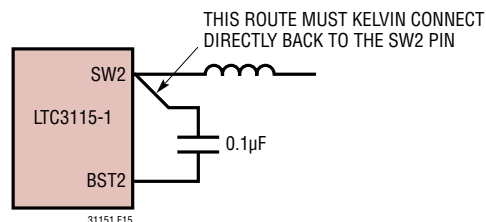

Figure 15. Kelvin BST Connections
8. Connections from the BST1 and BST2 capacitors must Kelvin directly back to the respective SW pin as shown in Figure 15.